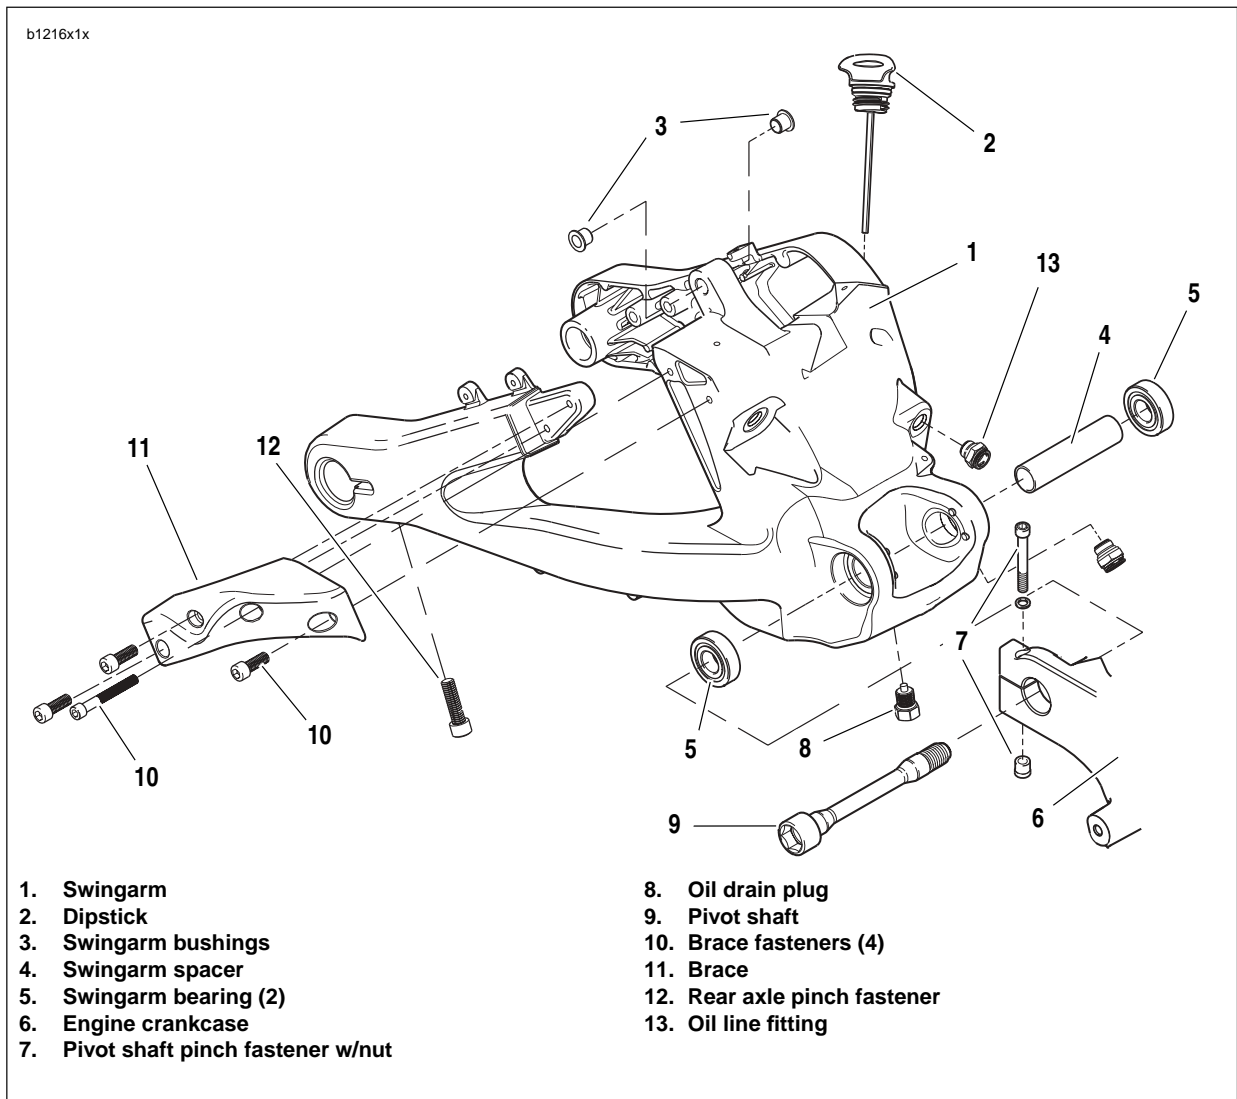

Figure 2-85. Swingarm Assembly
4. See Figure 2-85. Remove swingarm brace mounting fasteners (10).
5. Remove swingarm brace (11).
3. See Figure 2-85. Remove oil drain plug (8) and drain oil from swingarm. See Drain Oil in 1.5 ENGINE LUBRICATION SYSTEM.
10. See Figure 2-85. Loosen pivot shaft pinch fastener (7).
11. Remove pivot shaft (9) with the 7/8 in. hex tool from the tool kit.
See Figure 2-85. Remove swingarm bearings (5) only if replacement is required. The complete bearing assembly must be replaced as a unit when replacement is necessary. Do not intermix bearing components.
2. See Figure 2-85. Remove swingarm bearings (5) using slide hammer (SNAP-ON Part No. CJ1275 or equivalent) and 3/4 in. bearing remover and spacer.
3. Remove shock mount bushings (3) and sleeve.
1. See Figure 2-85. Install **new** shock mount bushings (3).
2. Install **new** bearings (5) and spacer (4) with BEARING INSTALLER (Part No. HD-44060) by lightly seating spacer.
4. See Figure 2-85. Install drain plug (8). Tighten to 26-29 ft-lbs (35-36 Nm).
1. See Figure 2-85. Align swingarm (1) in pivot of engine crankcase (6).
2. Install pivot shaft (9) with the 7/8 in. hex tool from the tool kit. Apply ANTI-SEIZE and tighten to 24-26 ft-lbs (32-35 Nm).
3. Apply LOCTITE 271 (red), install and tighten pivot shaft pinch fastener (7) to 17-19 ft-lbs (23-26 Nm).
1. See Figure 2-85. Install swingarm brace (11) with swingarm brace mounting fasteners (10) loosely. Do not tighten.
2. Tighten swingarm brace fasteners (10) to 25-27 ft-lbs (34-37 Nm).
4. Tighten rear axle pinch fastener (12) to 40-45 ft-lbs (54-61 Nm).